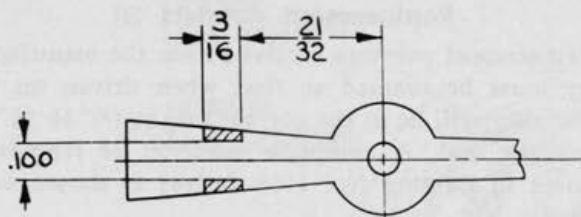

Figure 27
2. Modify the $8\frac{1}{2}$ " gauge pointer as shown in Figure 27 drawing. No modifications are required of $4\frac{1}{2}$ " and 6" sizes.
1. Modify the 8½" pointer per directions in Figure 27. No modifications are required of 4½" and 6" sizes.